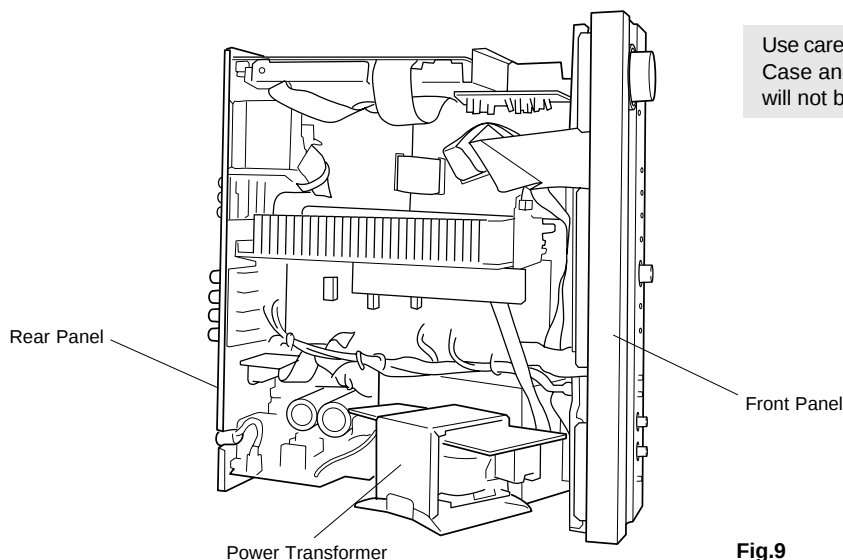

Fig.9
- Set the Rear Panel and Front Panel upright as shown in Fig. 9. At this time, use a box or the like to keep them horizontal. In this state, check the MAIN (1) P.C.B. and each of the other P.C.B. for operation.